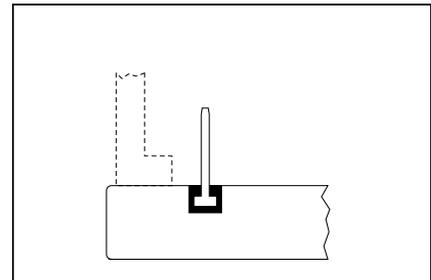

fig. 4
5. Place the heads of screws in holes while the glue is still fresh (see fig. 4)